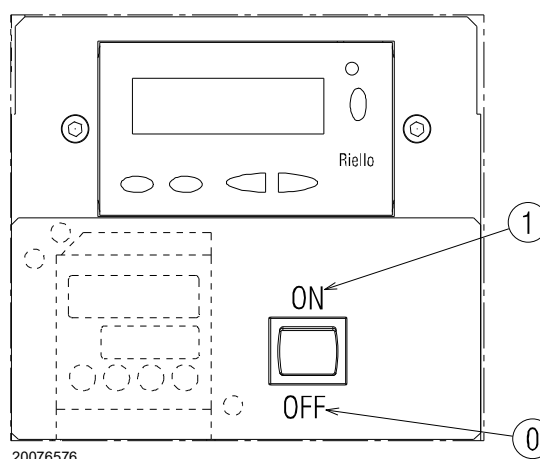

Fig. 29
Close the thermostats/pressure switches and set the switch of Fig. 29 to "1/ON".
- put the switch of Fig. 29 to "0/OFF" and wait until the flame control carries out the switching off phase;
The burner is in the heat request waiting mode, or the selector "0-1" (Fig. 29 on page 32) is at "0".